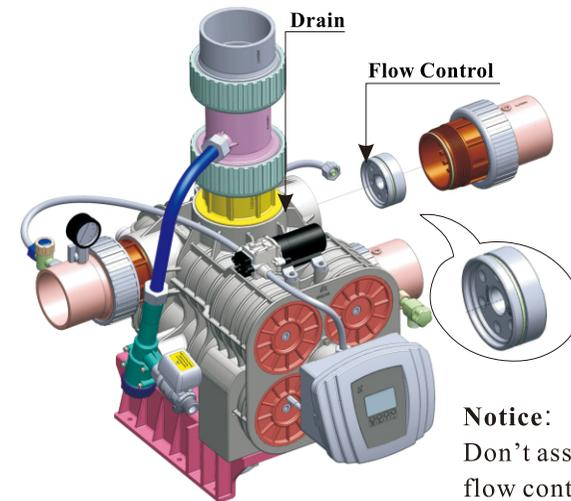

Figure 1-4
③Install drain pipeline (If no special request, the injector is 7804)
- c. As Figure 1-4 shows, unscrew the drain connector with a wrench, take out the drain line flow control, and replace it with the one meets the requirements. (Please drill holes according to P30)